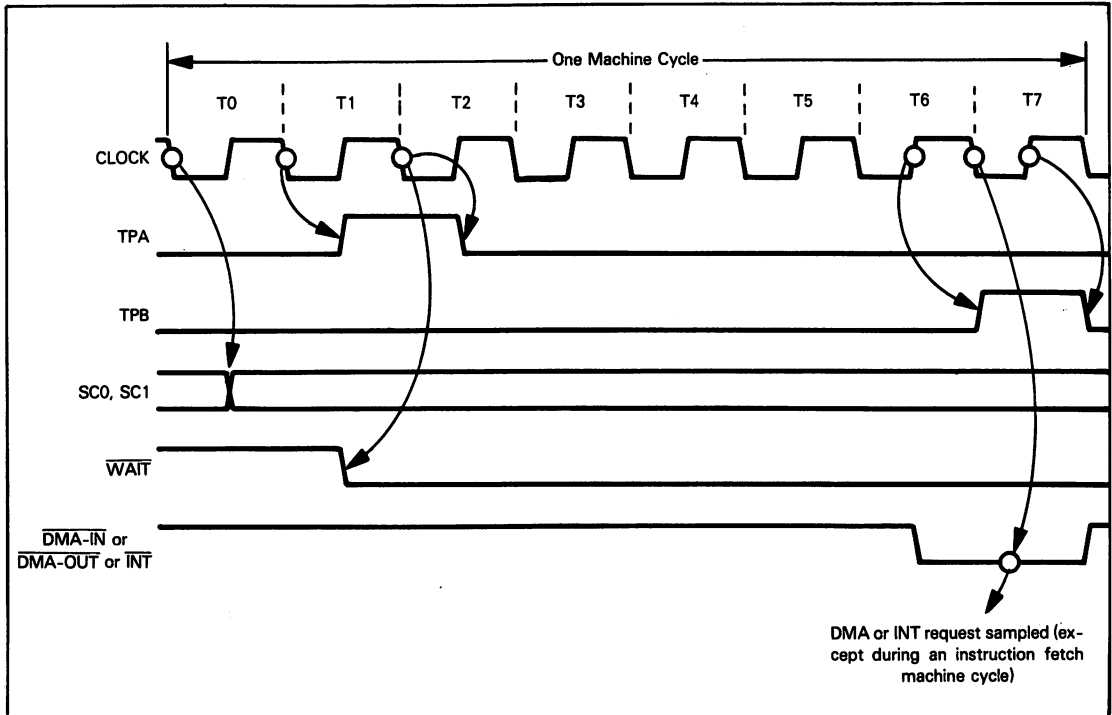
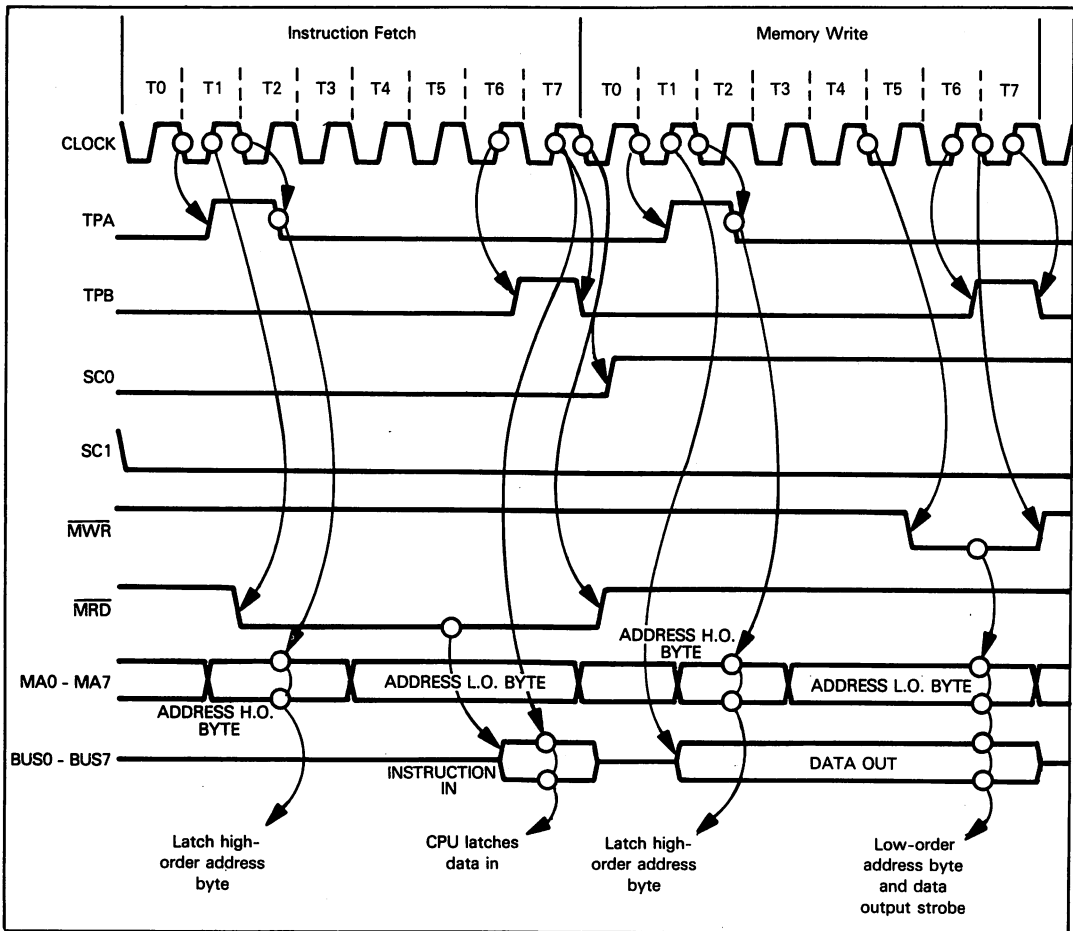
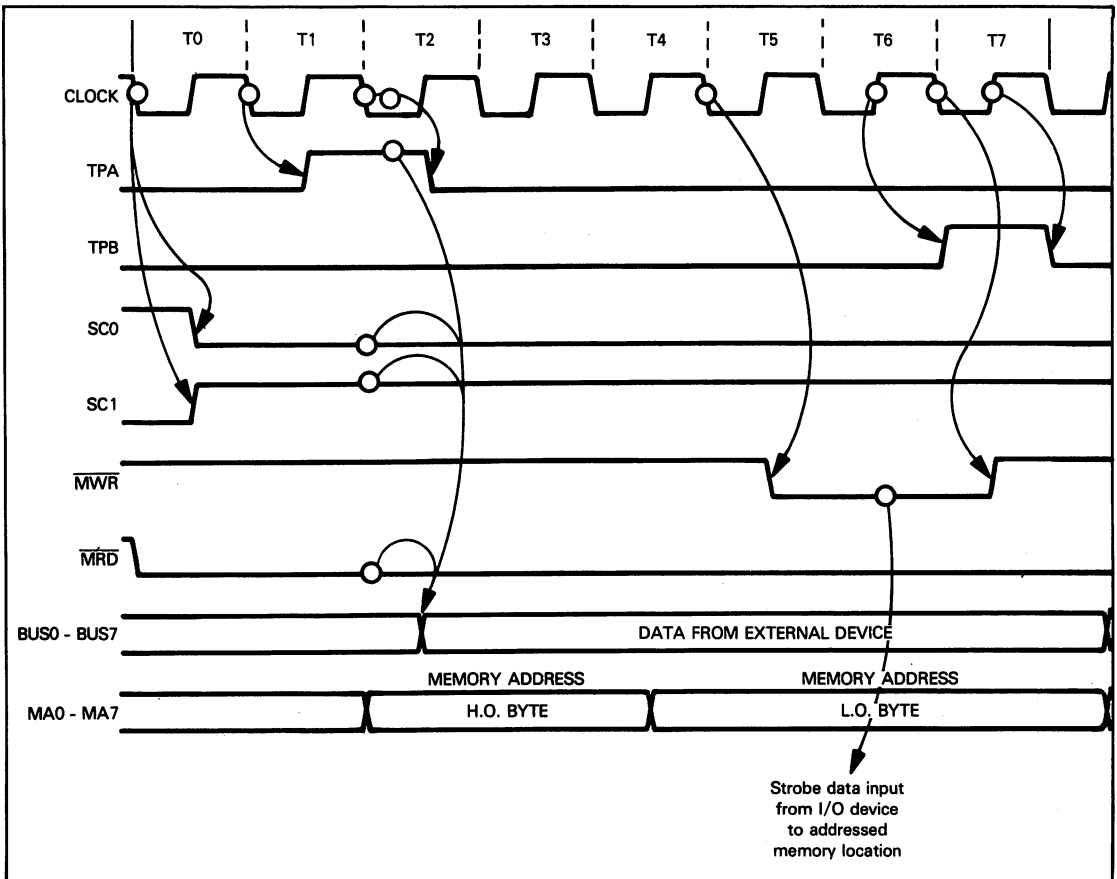
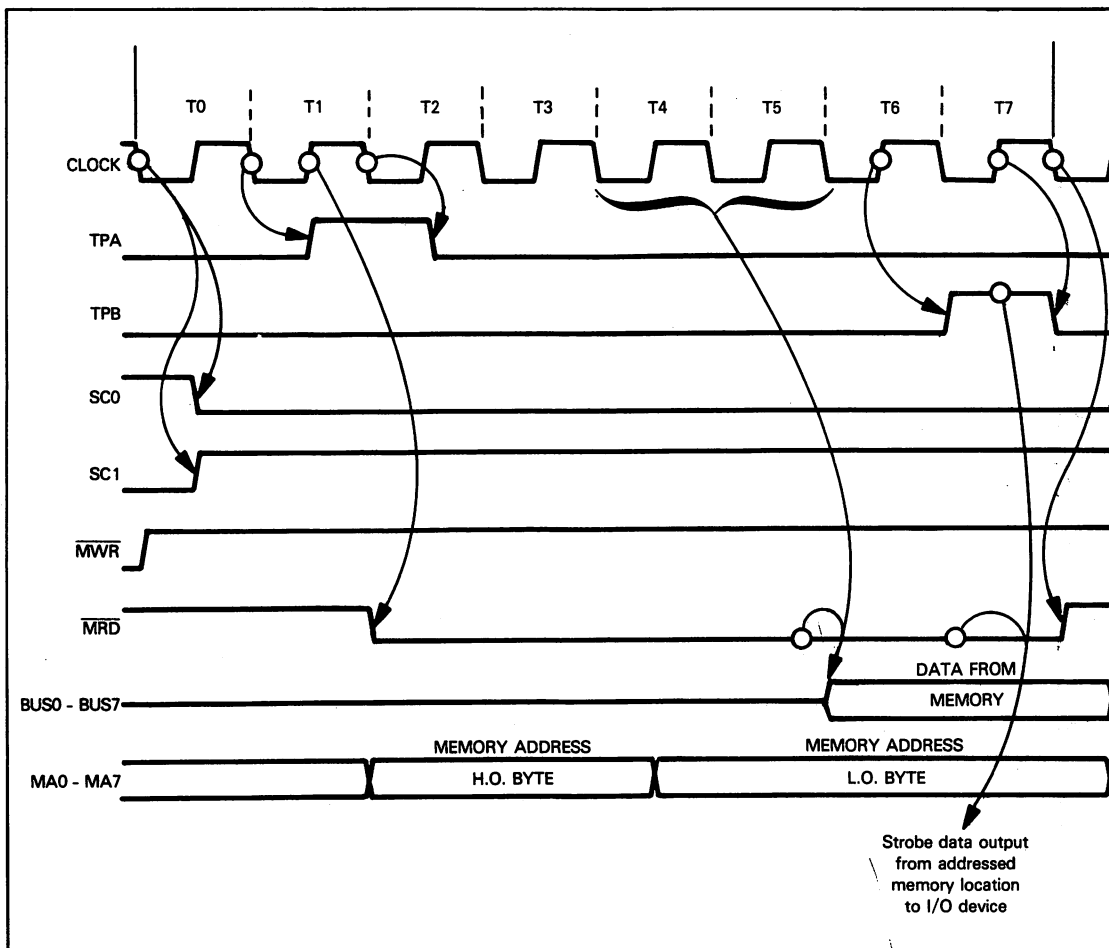

Figure 12-3. COSMAC Machine Cycle Timing
Figure 12-5. COSMAC Memory Write Instruction Timing
Figure 12-6. COSMAC DMA-IN Machine Cycle
Figure 12-7. COSMAC DMA-OUT Machine Cycle
**CLOCK, TPA, and TPB timing is illustrated in Figure 12-3.**
**All COSMAC instructions are executed as a sequence of machine cycles. Each machine cycle has eight clock periods, as illustrated in Figure 12-3. Two timing signals, TPA and TPB, are output as an integral part of every machine cycle's timing.**
A two-machine-cycle memory write instruction's timing is illustrated in Figure 12-5. Memory strobes the high-order address byte exactly as it would for a memory read. A low MWR pulse acts as the low-order address byte strobe and a data output strobe. The CPU has valid data on the Data Bus before the high-order address byte output is complete; since the low-order address byte is stable on the Address Bus for a considerable time, there are no timing problems associated with the low-order address byte or data output.
External logic initiates a DMA-IN or DMA-OUT operation by inputting the appropriate DMA control signal low. As illustrated in Figure 12-3, the CPU samples the DMA-IN and DMA-OUT lines at the end of T6 in non-instruction fetch machine cycles. Upon detecting one or the other of these two signals low, the CPU performs a direct memory access operation during the next machine cycle. **Figure 12-6 illustrates timing for a DMA-IN machine cycle; Figure 12-7 illustrates timing for a DMA-OUT machine cycle.** As illustrated in these two figures, a DMA machine cycle consists of a simultaneous memory and I/O access.
Consider first the DMA-IN machine cycle illustrated in Figure 12-6. As "DMA-IN" would imply, data is to flow from an external device to memory. The external device is implicitly identified; it is the device which drove the DMA-IN control signal low in the previous machine cycle. The memory location to be accessed is addressed by Register R0. A DMA-IN machine cycle therefore consists of a data input machine cycle superimposed on a memory write machine cycle. In many microprocessors, superimposing these two operations within a single machine cycle would be impossible, since the Address Bus is used to identify memory locations and I/O devices; also, memory and I/O accesses occur during the same part of a machine cycle. In the case of COSMAC, the two operations can occur within a single machine cycle. The memory location to be accessed is identified in the usual way by outputting a memory address on the 8-bit Address Bus. Memory interface logic selects a memory location and writes into it as it would for any memory write machine cycle. Timing is illustrated in Figure 12-5. The external device which requested the DMA-IN can use the combination of a high TPA pulse together with SC0 low, SC1 high, and MRD high as a control signal forcing data onto the Data Bus. By the time TPA is high, MRD will have been driven low for a data out machine cycle. The DMA machine cycle is itself identified by SC0 low and SC1 high.
**For the DMA-OUT machine cycle, illustrated in Figure 12-7, the memory access portion of the machine cycle does not differ from a memory read, as illustrated in Figure 12-4.** The signal causing the addressed memory location to place data on the Data Bus will be generated, as shown in Figure 12-7, from the combination of  $\overline{\text{MRD}}$  low and some appropriate clock transition; the appropriate clock transition will depend on the clock frequency you are using. The I/O device requesting the  $\overline{\text{DMA-OUT}}$  machine cycle can use the high TPB pulse as a strobe to read data off the Data Bus.
External logic may know whether a DMA-IN or a DMA-OUT operation is being performed, since the I/O device generated the initial DMA request. In this case, external logic does need a CPU control signal identifying the direction of the DMA transfer. In Figure 12-6 we could show input data appearing on the Data Bus soon after the beginning of the DMA-IN machine cycle, as identified by SC0 low and SC1 high. It is only necessary for the data to be stable on the Data Bus while the  $\overline{\text{MWR}}$  pulse is low, since this is the memory write strobe which will cause the input data to be written into memory.
External logic can, at any time, request an interrupt by inputting a low signal at  $\overline{\text{INT}}$ .  $\overline{\text{INT}}$  signal timing is given in Figure 12-3. Providing interrupts are enabled, following execution of the current instruction **the CPU will respond to the interrupt request with these three steps:**